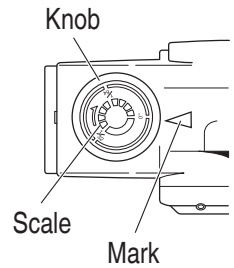

Fig. 1
- (1) Turn the knob in the direction indicated by the arrow in **Fig. 1** (clockwise), until the triangular mark is aligned with the desired cutting depth on the scale. The scale unit is graduated in millimeters.
- (2) The cutting depth can be adjusted within a range of 0-1 mm.